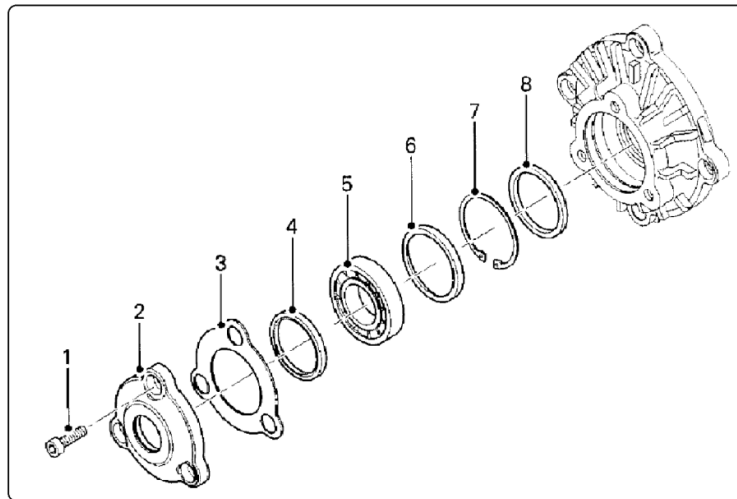

Figure 9, Seal/Bearing parts etc.
The sideplate assembly contains the parts shown in Fig 9. The sideplate dismantling method at various stages (as appropriate) is shown below.
The sideplate and bearing housing cap are now sufficiently exposed to easily remove items 3, 4, 5, 6, 7, and 8 in fig 9.